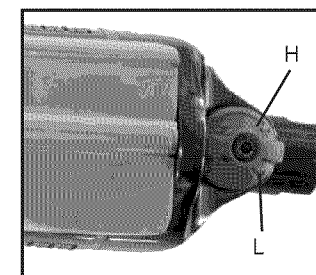

Figure 2
This tool features a regulator valve. Rotate regulator until desired output is achieved. The setting (H) and (L) on the regulator are only for reference and do not denote a specific power output. Turn regulator to position with (L) being the least amount of power and (H) being for the most amount of power. (See Figure 2)